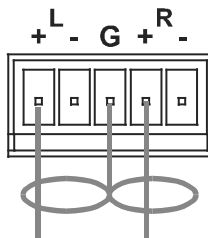

Figure 5: Connecting an Unbalanced Stereo Audio Output
- An unbalanced audio output, see Figure 5